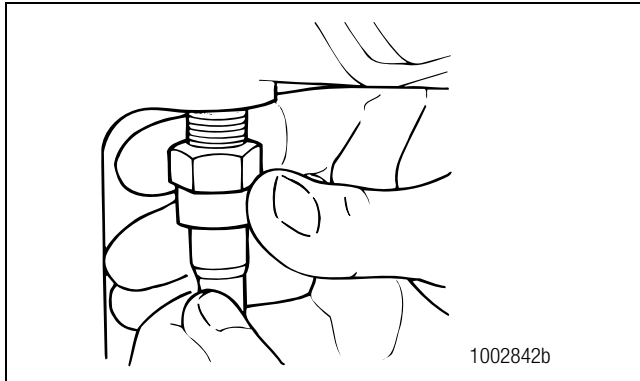

Figure 6.6
3. Remove the differential lock sensor switch, if used, and jam nut from the carrier. Figure 6.6.